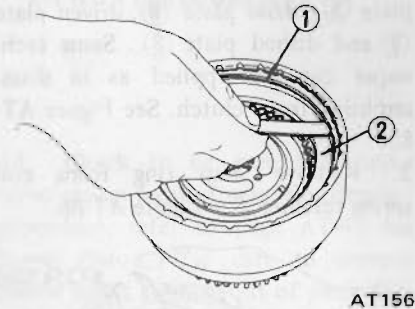

Fig. AT-88 Measuring ring to plate clearance
1. After rear clutch is assembled, check to be sure that clearance between snap ring ① and retaining plate ② is held within specified clearance. See Figure AT-88.